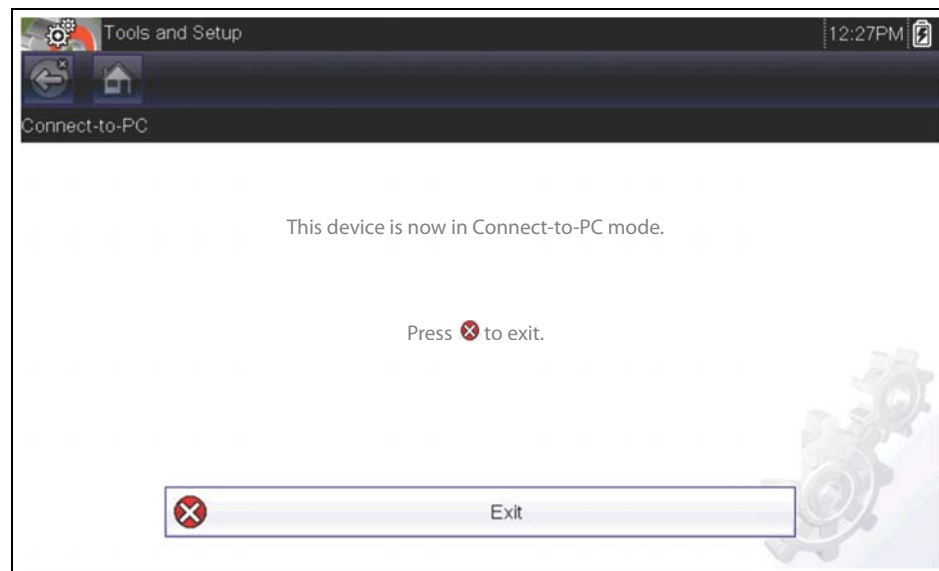

Figure 4-38 Typical - Exit selection
1. From the Diagnostic Tool, select **Exit** from the Connect-to-PC mode screen to terminate communication (Figure 4-38).